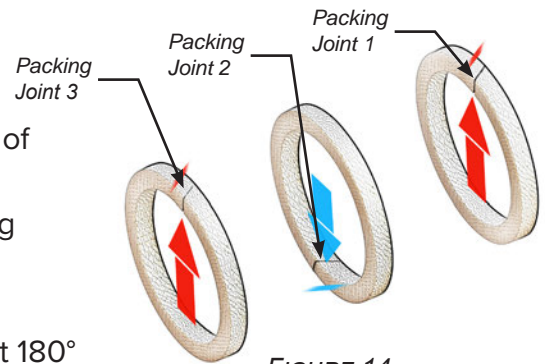

FIGURE 14
10. Wrap the first ring around the shaft and note the position of the joint (Figure 14).
13. Wrap the second ring around the shaft and offset the joint 180° from the position of the first ring (Figure 14). Push it into the packing gland using the packing retainer then slide packing retainer out of packing gland.
14. Wrap the third ring around the shaft and offset the joint 180° from the second ring (Figure 14). Push it into the packing gland using the packing retainer.